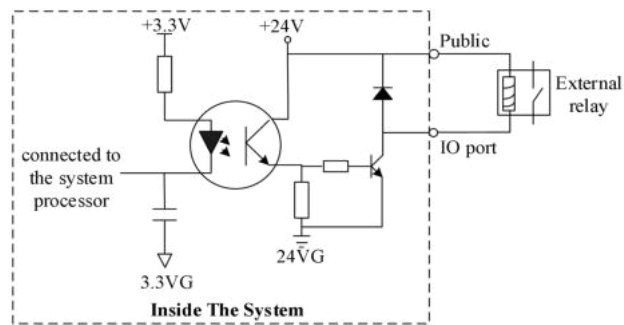

Figure 10.8 Schematic diagram of the output interface circuit
- Its typical output port interface circuit is shown in Figure 10.8.